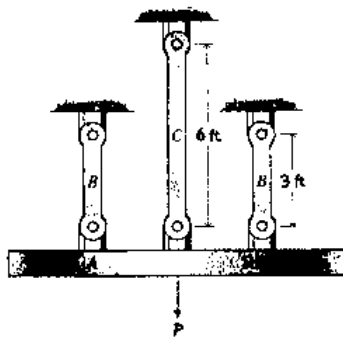

Fig. 1
1. A load  $P$  will be supported by a structure consisting of rigid bar A, two aluminum alloy bars B ( $E = 10600$  ksi), and a stainless steel bar C ( $E = 28000$  ksi), as shown in Fig. 1. The bars are unstressed when the structure is assembled at room temperature ( $72^\circ\text{F}$ ). Each bar has a cross-sectional area of  $2.00\text{ in}^2$ . The coefficients of thermal expansion are  $12.5(10^{-6})/^\circ\text{F}$  for the aluminum and  $9.6(10^{-6})/^\circ\text{F}$  for the stainless steel. Determine the axial stresses in the bars after a 40-kip load is applied and the temperature is increased to  $250^\circ\text{F}$ . (25%)